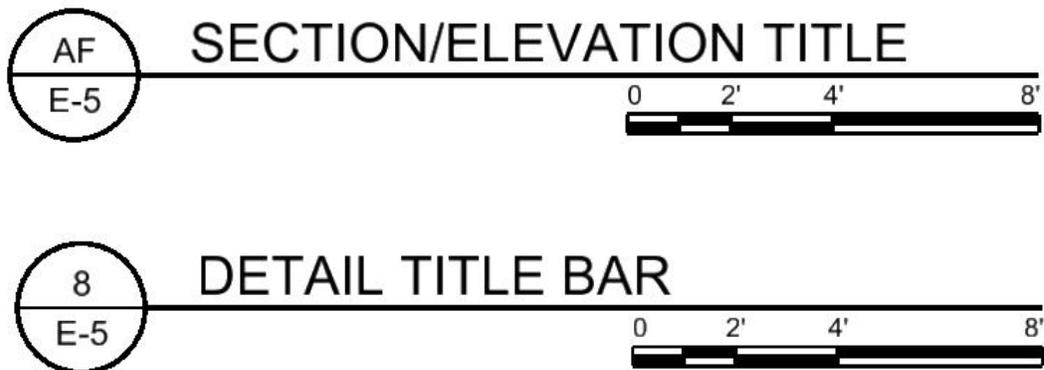

FIGURE 3-10. Referenced drawing area title identification symbols
4.2.3.1.2 A referenced drawing area title is used to label a drawing area, when the drawing area subject is referred to from another drawing area subject within the contract drawing set (Figure 3-10). The referenced drawing area title contains the reference identification, title line and scale bar. The reference identification is a two part circle that identifies the following: the top alpha or numeric tag contains the enlarged plan/elevation/section/detail identification and the bottom alpha/numeric tag contains the sheet number on which the enlarged plan/elevation/section/detail is called out within the contract drawing set. The enlarged plan/elevation/section drawing area identification shall consist of an alphabetical character, this does not apply to the detail identification. The letters O and I shall not be used. The character sequence shall be A,B,C ... Z, AA, AB, AC ... AZ, BA, BB, BC ... BZ, etc. Enlarged plan/elevation/section identification character's shall be assigned in alphabetical sequence without regard to where the drawing area title is located within the contract drawing set. Each discipline designator contained in the contract drawing set shall have its own enlarged plan/elevation/section identification sequence. The detail identification shall consist of a numeric character, this doesn't apply to the enlarged plan/elevation/section identification. The detail drawing area identification character sequence shall be 1, 2, 3, 4 ... etc. Detail drawing area identification characters shall be assigned in numerical sequence without regard to where the drawing area title is located within the contract drawing set. Each discipline designator contained in the contract drawing set shall have its own detail drawing area identification sequence. The height of the text on the drawing area title line shall be 1/4 in. The height of the text within the two part circle shall be 1/8 in. The scale text underneath the drawing area title line shall be 3/32 in.